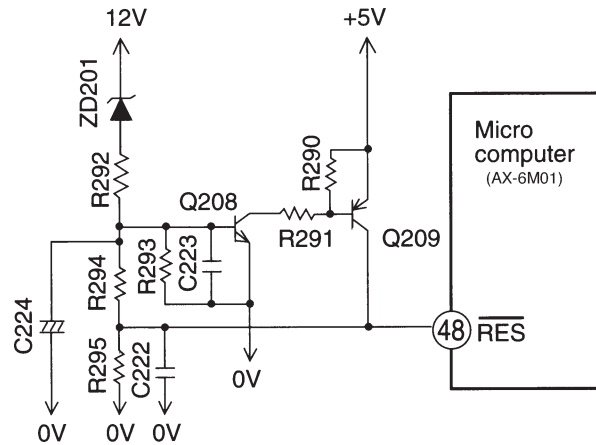
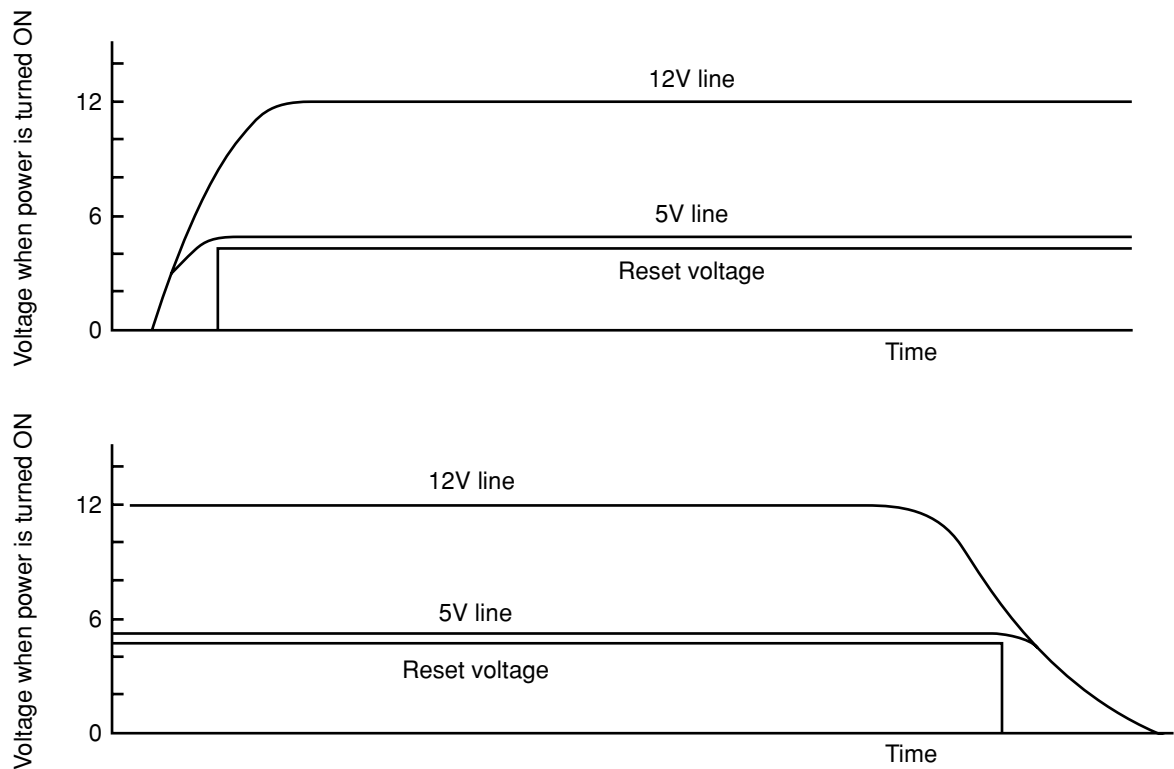

Fig. 9-1
Fig. 9-2
- Fig. 9-1 shows the reset circuit, and Fig. 9-2 shows waveform at each point when power is turned on/off.